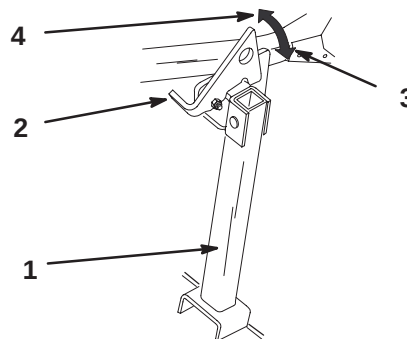

Figure 29
6. Drive onto stand. Stop when latch drops over tab into locked position (Fig. 29). Once onto stand, engage parking brake. Shut off engine.
1. Raise latch to unlocked position (Fig. 29).